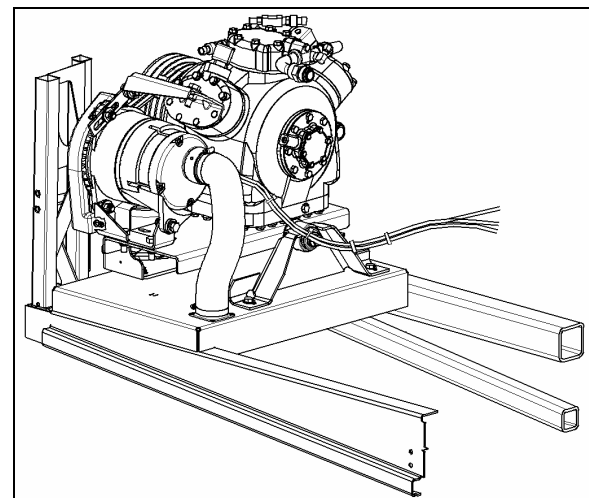

FIGURE 25: BOSCH 24V-140A WITH CENTRAL HVAC SYSTEM
1. Insert a $\frac{3}{4}$ " socket drive into the automatic belt tensioner opening (Fig. 25).